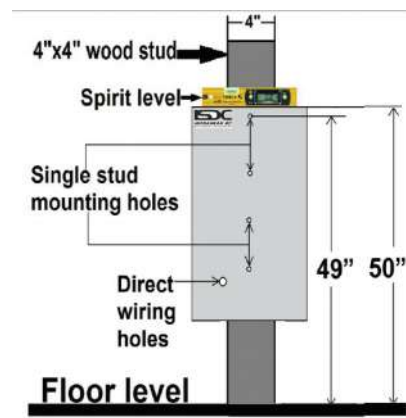

Figure 9: Mark and drill 4 mounting holes using 5/32" wood drill bit
- Place the template on the wall aligning to the centre of the 4"x4" wood stud as shown in Figure 9 .
- Place the template such that the top surface of the template is at the height of 50" from the floor as shown in Figure 9 .
- Ensure the level of template using spirit level as shown in Figure 9 .
- Mark the 4 drilling points and direct wiring hole as shown in Figure 9 .